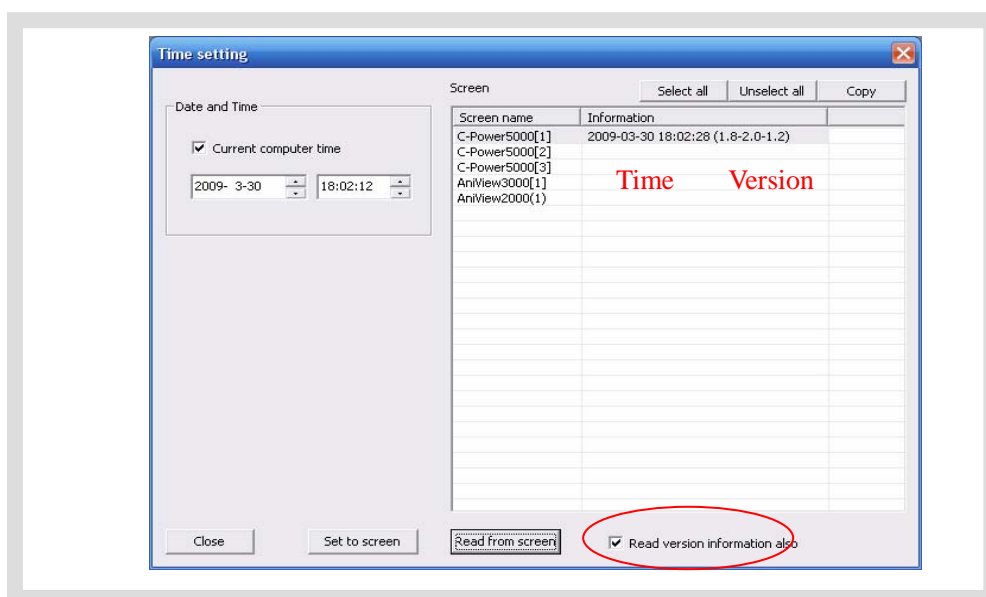

Figure35 Time setting
- 1) Click "Setting" – "Time on LED screen" in menu. The dialog box of "Time setting" pops up, as shown in Figure35.